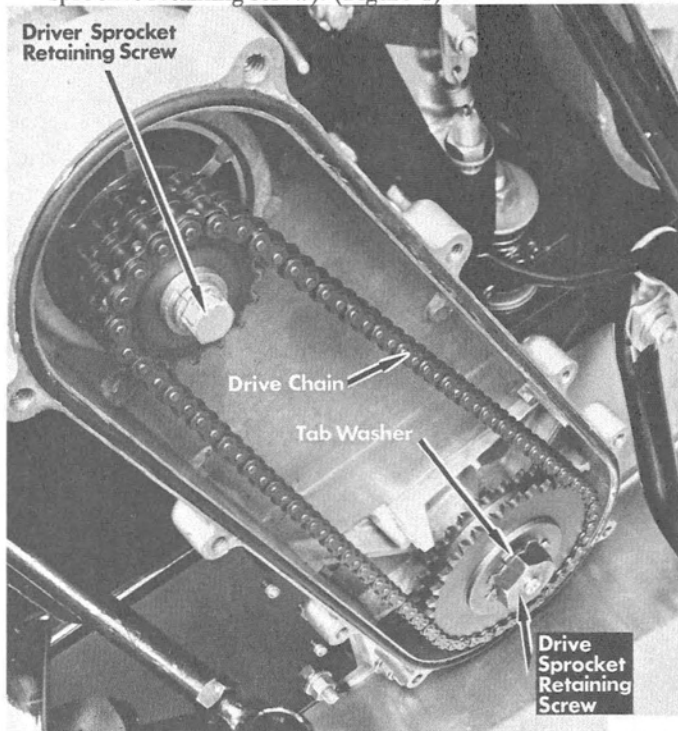

Figure 4. Drive Chain and Sprockets
3. Straighten locking tabs on tab washer (located under drive sprocket retaining screw). (Figure 4)
4. Apply brake and remove drive and driver sprocket retaining screws and washers. (Figure 4)